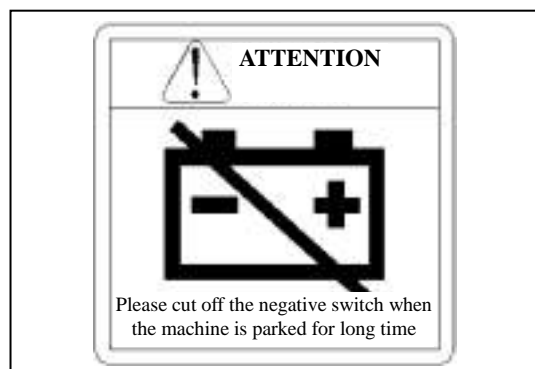

Figure 1-28 Precautions when turning off the negative power supply
(27) Precautions when cutting off the negative power supply switching, as shown in Figure 1-28.